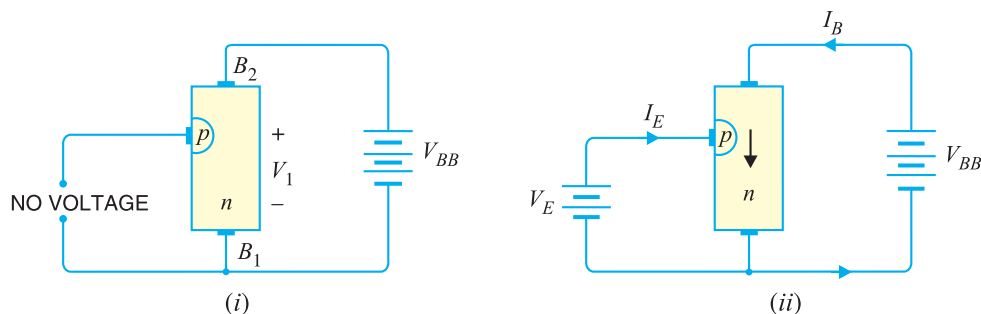

Fig. 21.25
**Operation.** Fig. 21.25 shows the basic circuit operation of a unijunction transistor. The device has normally  $B_2$  positive w.r.t.  $B_1$ .
(i) If voltage  $V_{BB}$  is applied between  $B_2$  and  $B_1$  with emitter open [See Fig. 21.25 (i)], a voltage gradient is established along the *n*-type bar. Since the emitter is located nearer to  $B_2$ , more than \*\*half of  $V_{BB}$  appears between the emitter and  $B_1$ . The voltage  $V_1$  between emitter and  $B_1$  establishes a
(ii) If a positive voltage is applied at the emitter [See Fig. 21.25 (ii)], the  $pn$  junction will remain reverse biased so long as the input voltage is less than  $V_1$ . If the input voltage to the emitter exceeds  $V_1$ , the  $pn$  junction becomes \*forward biased. Under these conditions, holes are injected from  $p$ -type material into the  $n$ -type bar. These holes are repelled by positive  $B_2$  terminal and they are attracted towards  $B_1$  terminal of the bar. This accumulation of holes in the emitter to  $B_1$  region results in the decrease of resistance in this section of the bar. The result is that internal voltage drop from emitter to  $B_1$  is decreased and hence the emitter current  $I_E$  increases. As more holes are injected, a condition of saturation will eventually be reached. At this point, the emitter current is limited by emitter power supply only. The device is now in the *ON* state.